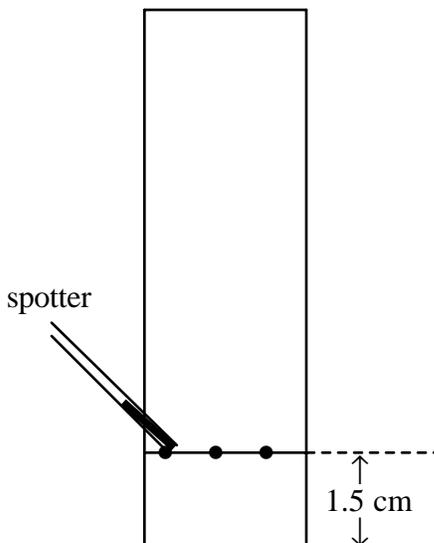

Figure 1: Spotting a TLC strip
2. Measure up 1.5-cm from the bottom of the TLC strip. Using a #2 pencil, draw a line across the width of strip. This line is the starting point and marks where a drop of the rinse solvent is applied with a spotter. See Figure 1.